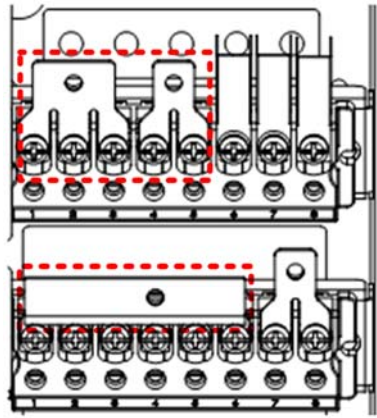

Figure 8-16 3-in 1-out, common input configuration (2)
b) Install the copper shorting bars on the input terminals (mA, bA, bB, bC), and use the output shorting copper bars to connect the output terminals (oA, oB, oC) together. See Figure 8-16.